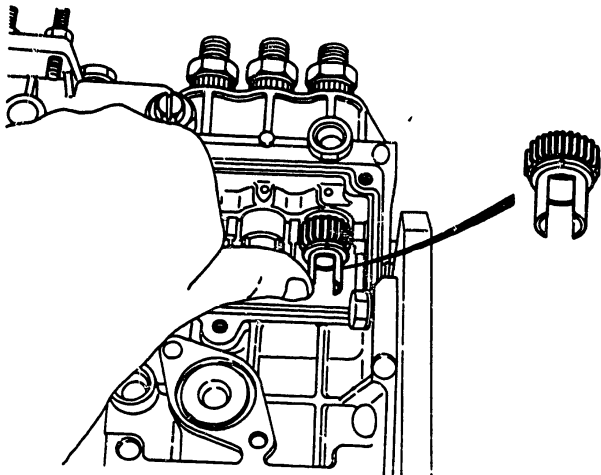

Fig. 75 Installing control sleeve for No. 1 cylinder
- 3) Engage the No. 1 cylinder control sleeve with the control rack with the groove facing vertically upwards as shown in Fig. 75.